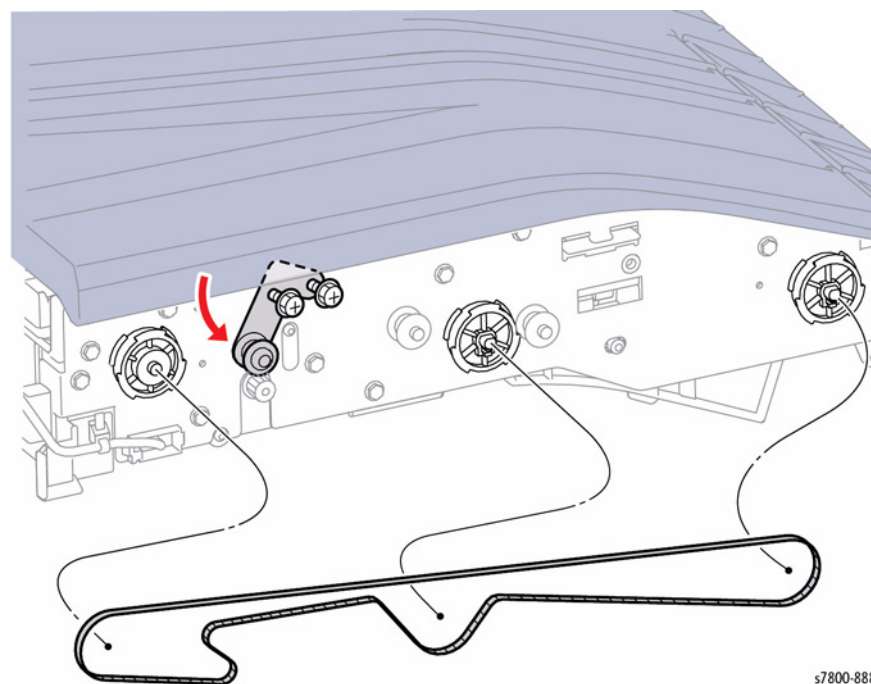

Figure 2 Removing the Belt
4. Loosen 2 screws and push the Tension Belt in the direction of the arrow as shown in Figure 2.